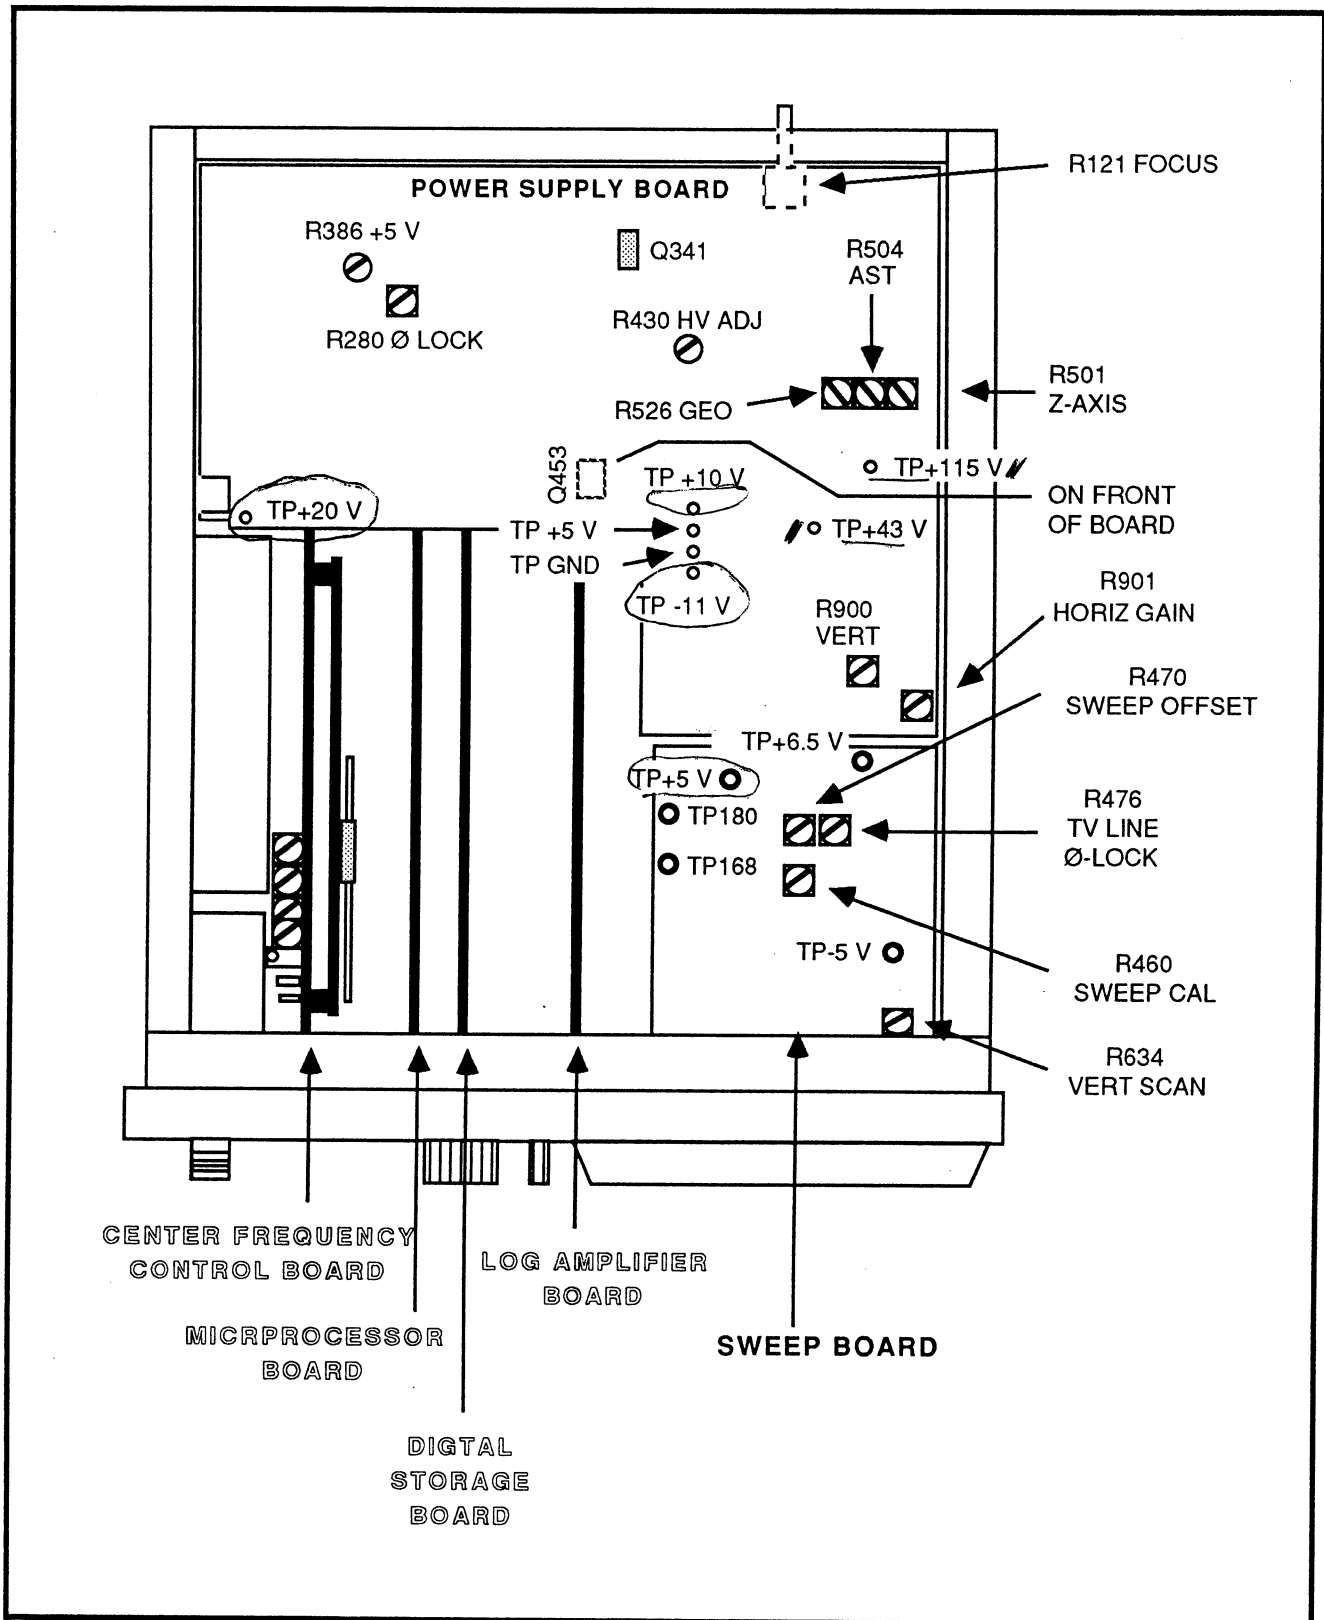

Figure 4-1. Adjustment and test point locations on the Power Supply and Sweep boards.
Refer to Figure 4-1 for the location of all adjustments and test points.
- h. Check the other supply voltages at the test points indicated in Figure 4-1 against tolerances listed in Table 4-2.
- (1) Voltmeter
- b. Monitor TP168 with the voltmeter. See Figure 4-1.